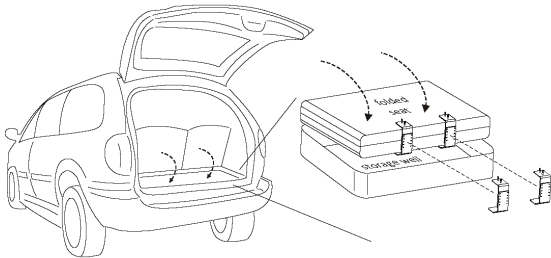

Figure 4-29
- Position assembled parts around third row seat(s) then fold into well. *See Figure 4-29.*